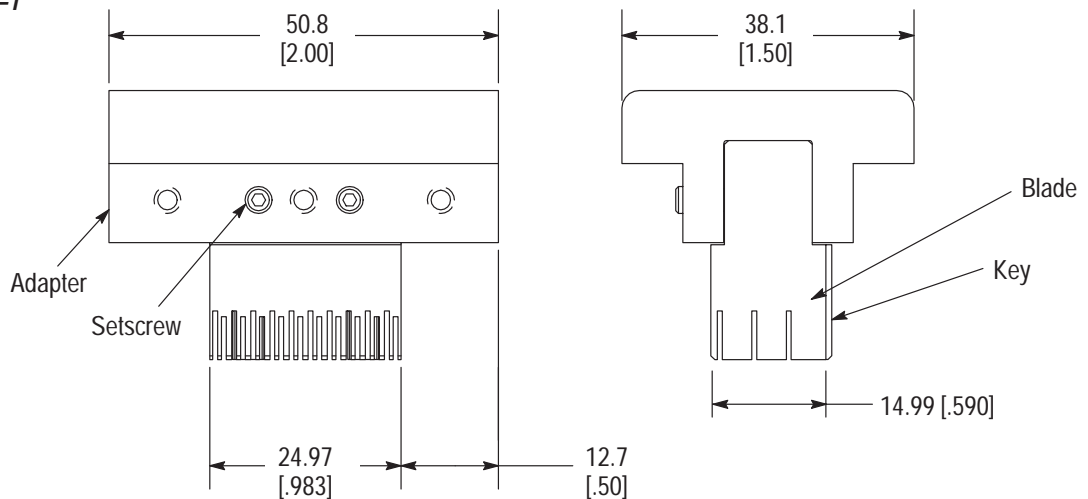

Figure 3
Each seating tool is assembled and inspected before shipment. It is recommended that the tool be inspected, using Figure 3, immediately upon its arrival in your plant to assure that it has not been damaged during shipment.
The parts listed in Figure 3 are customer-replaceable. A complete inventory can be stocked and controlled to prevent lost time when replacement of parts is necessary. Order replacement parts through your field representative, or call 1-800-526-5142, or send a facsimile of your purchase order to 1-717-986-7605 or write to:
- Added new part number information to Figure 3